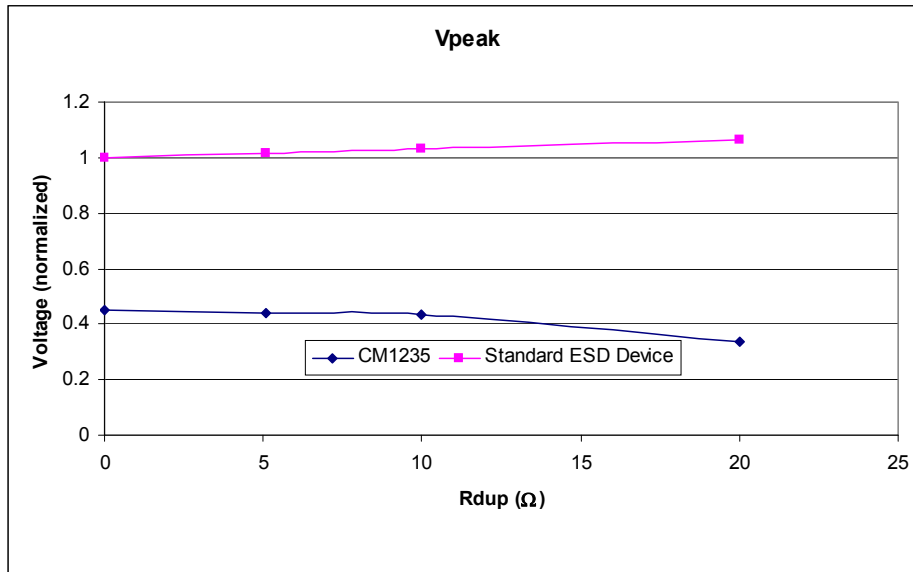
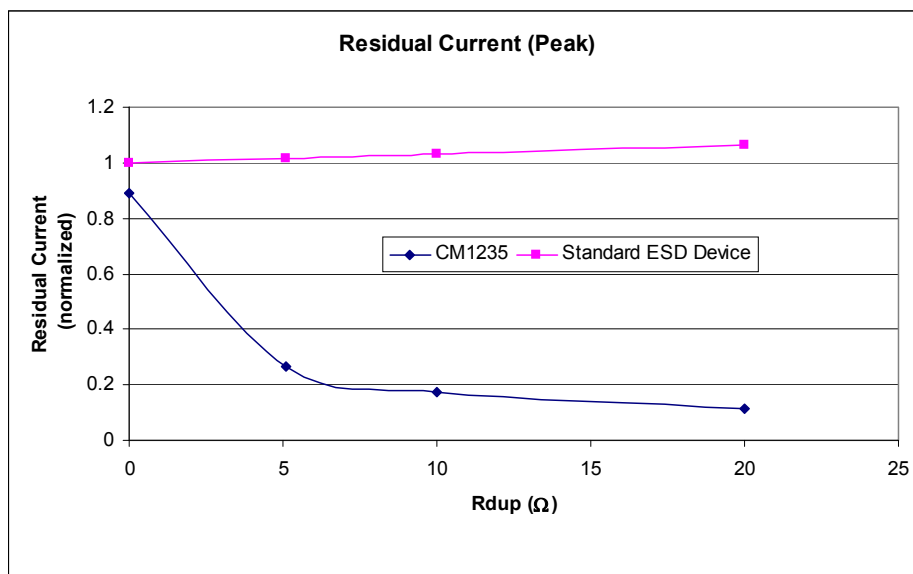
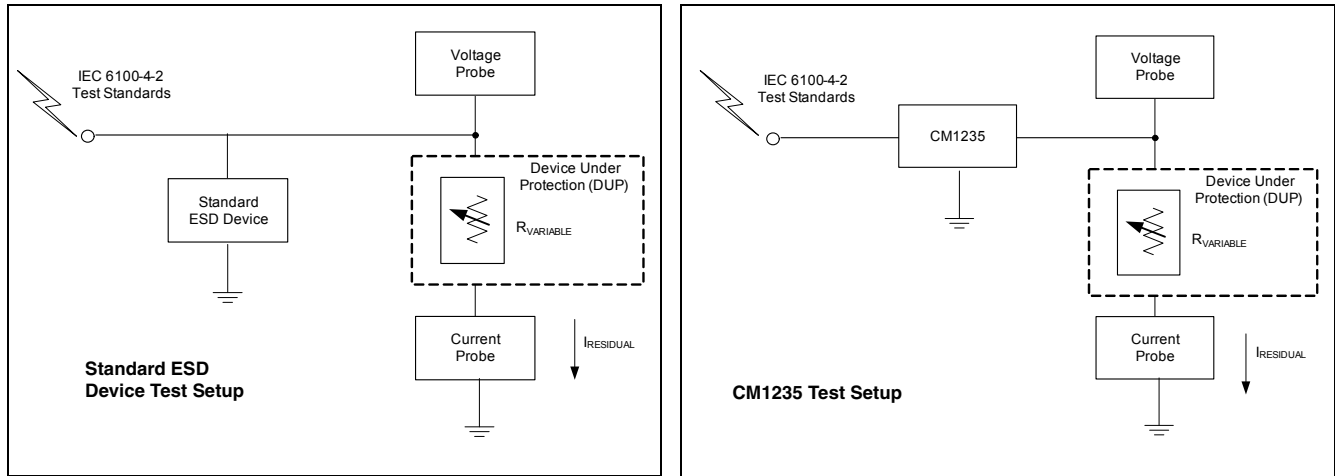

Figure 4. VPeak (8KV IEC-61000 4-2 ESD Contact Strike) and VClamp vs. Loading (RDUP)*
Figure 5. Energy Dissipated in DUP vs RDUP*
Figure 6. Test Setups: Standard Device (Left) and CM1235 (Right)
| I_{RES} | Residual ESD Peak Current on RDUP (Resistance of Device Under Protection) | IEC 61000-4-2 8kV; RDUP = 5Ω , $T_A = 25^\circ\text{C}$; Note 2 and Figure 6 | | 3.0 | | A |
Figure 4 shows that the CM1235 (*PicoGuard XS* ESD protector) lowers the peak voltage and clamping voltage by 45% across a wide range of loading conditions in comparison to a standard ESD protection device. Figure 5 also indicates that the DUP/ASIC protected by the CM1235 dissipates less energy than a standard ESD protection device. This data was derived using the test setups shown in Figure 6.
* RDUP is the emulated Dynamic Resistance (load) of the Device Under Protection (DUP). See Figure 6.